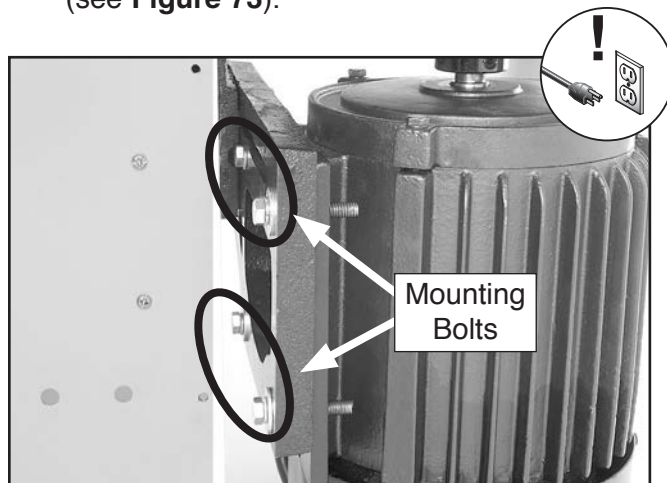

Figure 73. Motor mounting bolts location.
2. Remove the motor cover from the cabinet, then loosen the four motor mounting hex bolts that are behind the motor mount (see **Figure 73**).